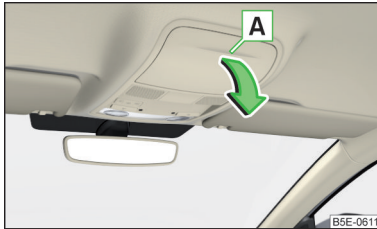

Fig. 105
- ▶ To **open**, press on the outer edge of the glasses compartment in area **A**. The compartment folds in the direction of the arrow » Fig. 105.